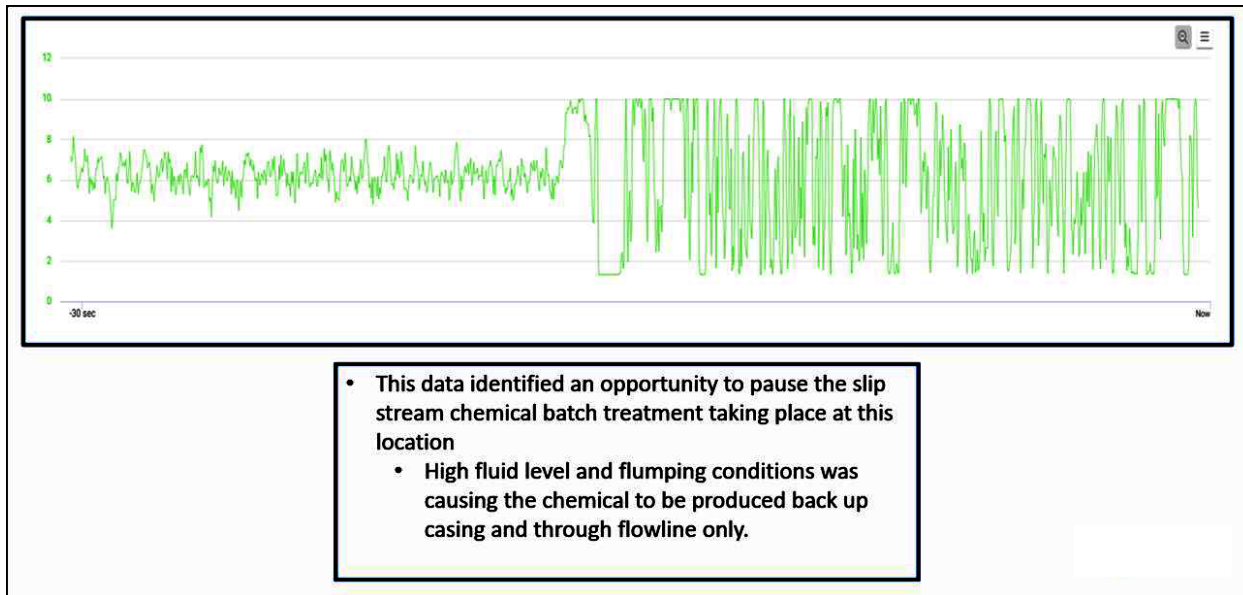

FIGURE 5: A rod pumped well caught transitioning from a normal gas flow to flumping condition.
- b. An example of how GreenShot identifies flumping conditions can be referenced in Figure 5 below.